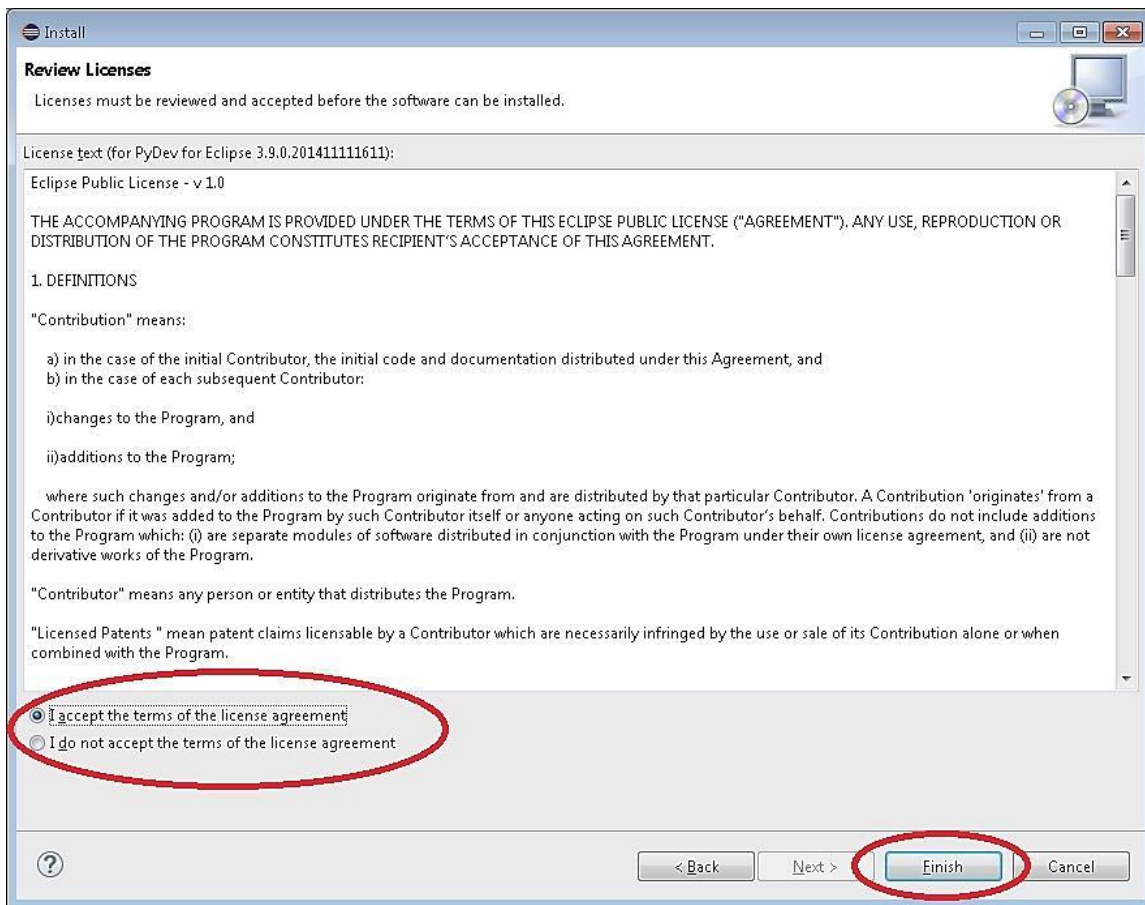

Figure 8: Installing PyDev Plug-in for Eclipse (continued)
- Accept the license agreement and finish installing PyDev (Figure 8).